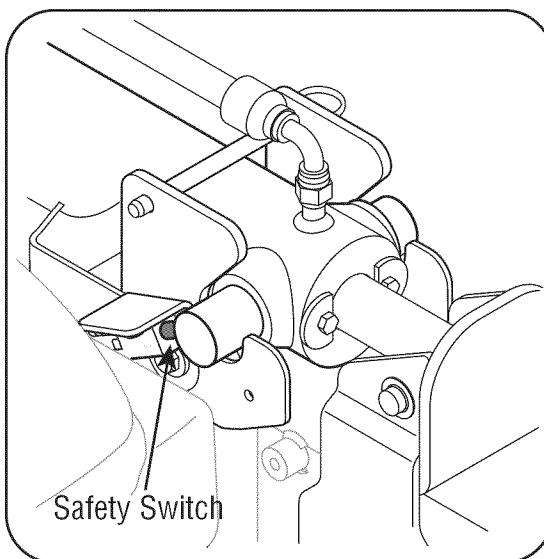

Figure 4-3
The safety switch is intended to prevent the operator from starting the engine without the cylinder being in the operating "lock" position. See Figure 4-3 for the location of the safety switch.
2. Use handle to slide cylinder rearward into the operating “Lock” position, engaging the safety switch, and reinsert locking pin. See Figure 4-3.